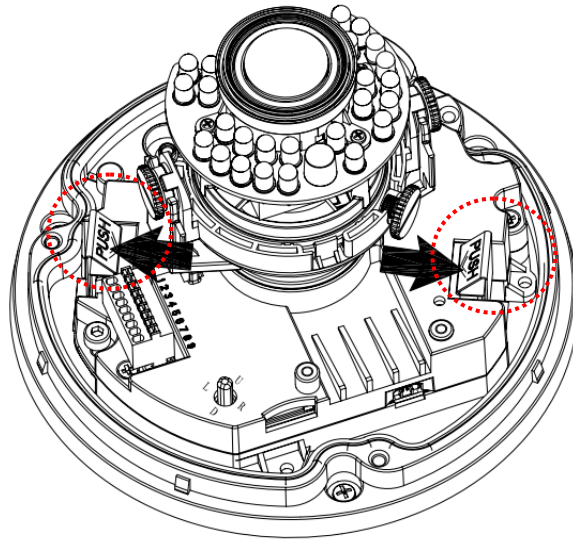

Figure 3-4
Please remove the device cable port (Provided) and the power terminal (② and ④ in chapter 2.2.) Use the inner hex wrench (Provided) to remove the 2 inner hex screws from the dome driver module. Then please follow the prompt on the device to push the metal hook to two sides. Remove the dome driver module from the chassis. See Figure 3-4.